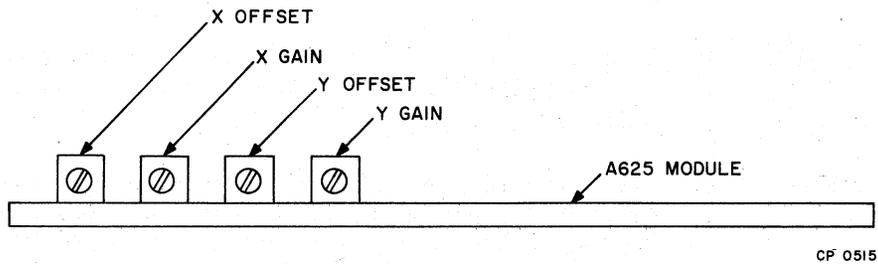

Figure 4-1 Location of A625 Offset and Gain Adjustments
- a. Offset Adjustments – Load binary 4000 into the calibration axis. This can be done by depositing it into address 770420 for X or 770422 for Y. The output should measure 0V. If it does not, adjust the offset potentiometer of the axis being calibrated (Figure 4-1).